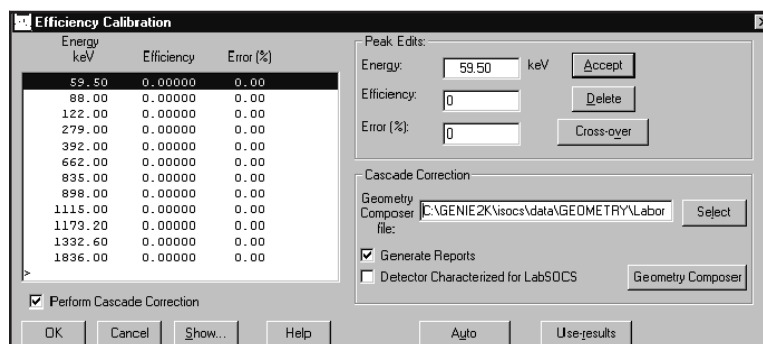

Figure 200 Enabling Cascade Correction
3. Select the Perform Cascade Correction checkbox (Figure 200). If any of the prerequisites have not been met, an appropriate error message will be displayed. The checkbox will be disabled and you must exit the dialog to correct the deficiency. Otherwise, the Cascade Correction group box will be enabled.